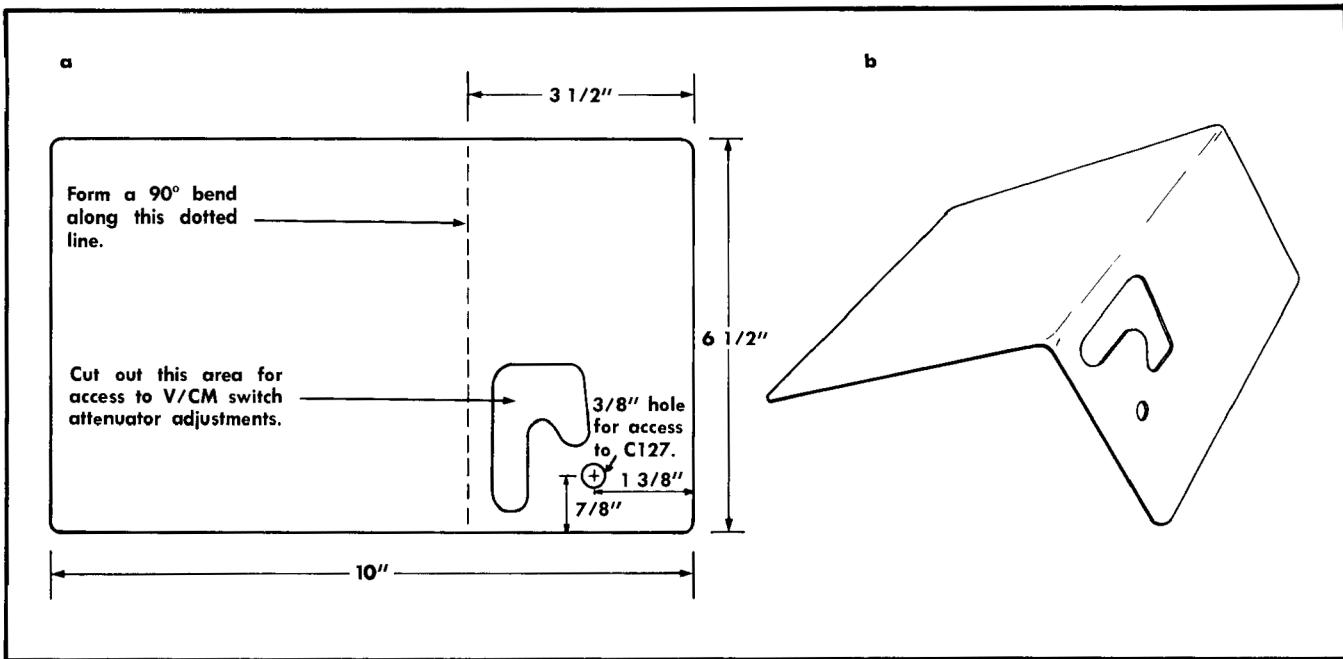

Fig. 5-1. Constructing the tuning shield. (a) shows layout and (b) shows completed shield.
- (8) Connector Adapter, with BNC-plug and UHF-jack connector fittings, fits BNC-jack and UHF-plug connectors, will accept a banana plug, Tektronix Part No. 103-032.
- (9) Tuning shield (applies only to instruments below SN 3000). This is an optional item to construct to decrease calibration time if there are several units to calibrate. The shield is used when performing step 25 in the calibration procedure. Suggested layout for constructing the shield is shown in Fig. 5-1. (If you are calibrating a single unit, the first portion of step 25 can be performed without using the shield. Then the last portion of the step can be performed as described in the procedure.)
- (10) Miscellaneous